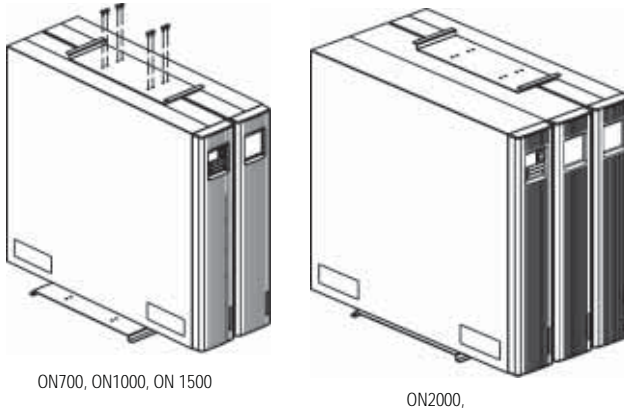

Fig. 16: Attaching Bracket to Top of Units
5. Attach the remaining foot bracket to the top of the External Battery Cabinet/UPS combination to bridge the two cabinets. Securing with the eight (8) #6-32 screws provided (fig. 16).